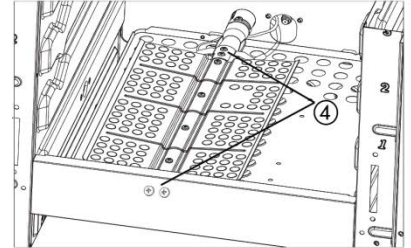

fig. 22
- b) Remove the burner securing screws (total 4) (fig. 22)